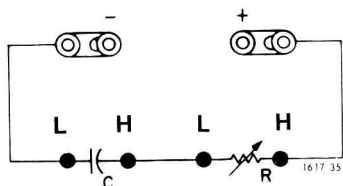

Figure 6-3. Connections for R and C in the D-dial check.
- Connect to the bridge a 1.0 μF Standard Capacitor*, such as GR 1409 in series with a decade resistance box, such as a GR 1433 (Figure 6-3).